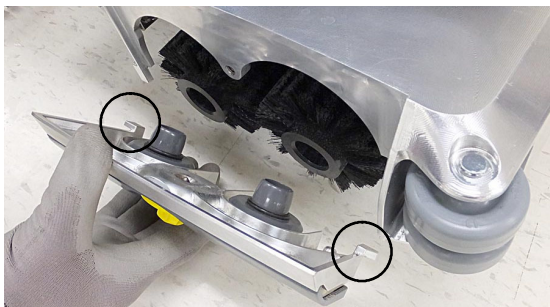

FIG. 25
5. Connect the idler plate to the brush ends and reattach the idler plate. Make sure the idler plate hooks are engaged before tightening knob (Figure 25).